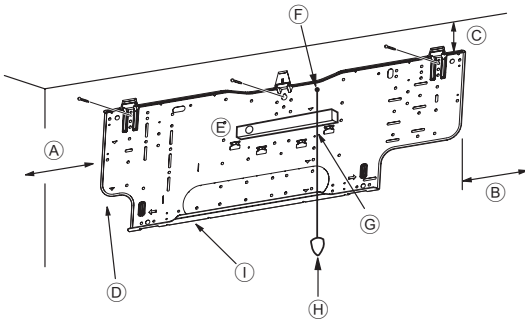
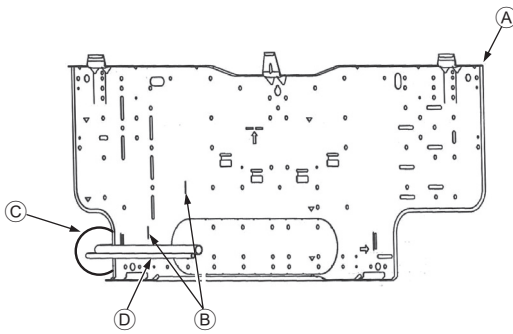

Fig. 3-4
Fig. 3-5
■ PKA-A-HA(L) (Fig. 3-4)
- Ⓓ Fixing screws (4 × 35 mm, 1-3/8 inch) ②
- Ⓘ Mount board ①
3.3. When embedding pipes into the wall (Fig. 3-5)
- Ⓐ Mount board ①